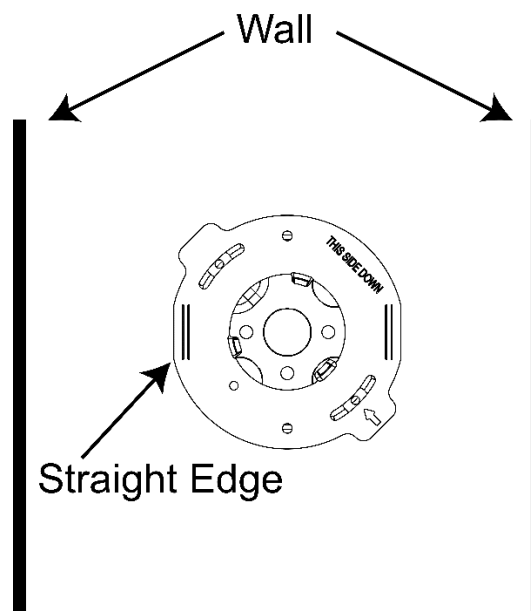

Figure 3
4. Use the **#8 Screws** provided to secure the Mounting Bracket flush to the ceiling by fastening it to the Junction Box. **Ensure that the side of the mounting bracket with the text "THIS SIDE DOWN" is facing the floor.** If installing a Square Slimform, use the straight edges of the mounting bracket to assist with alignment of the fixture. To align a square fixture parallel to a particular wall, **ensure that the straight edge of the bracket runs parallel with the wall**, as shown in *Figure 3*